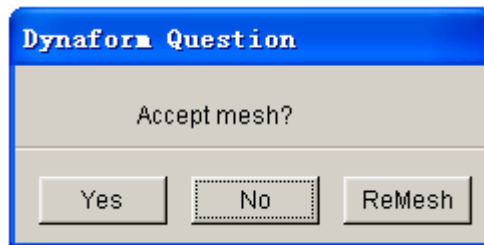

Figure 6.5.17 DYNAFORM QUESTION dialog box
- Select OK to accept the selected line. The trimmed result is displayed along with a DYNAFORM QUESTION box as illustrated in Figure 6.5.17.